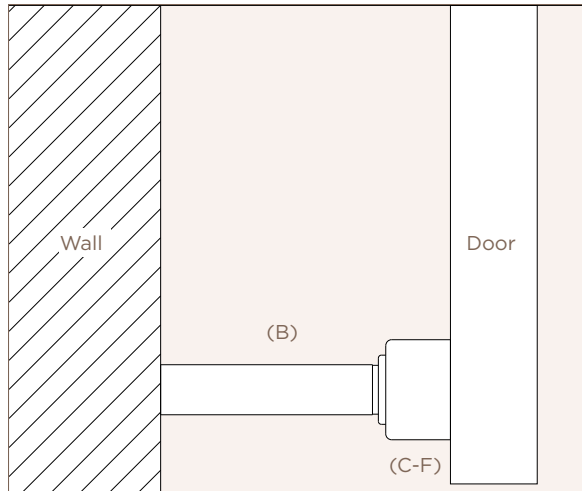

Figure 1
- 1.1 Open the door to its desired maximum opening angle and determine the location for wall-mounting (usually on the skirting board). Ensure the door stop (B) will strike the assembled keeper (C-F) flush, whilst preventing your door furniture from contacting the wall. Figure 1.